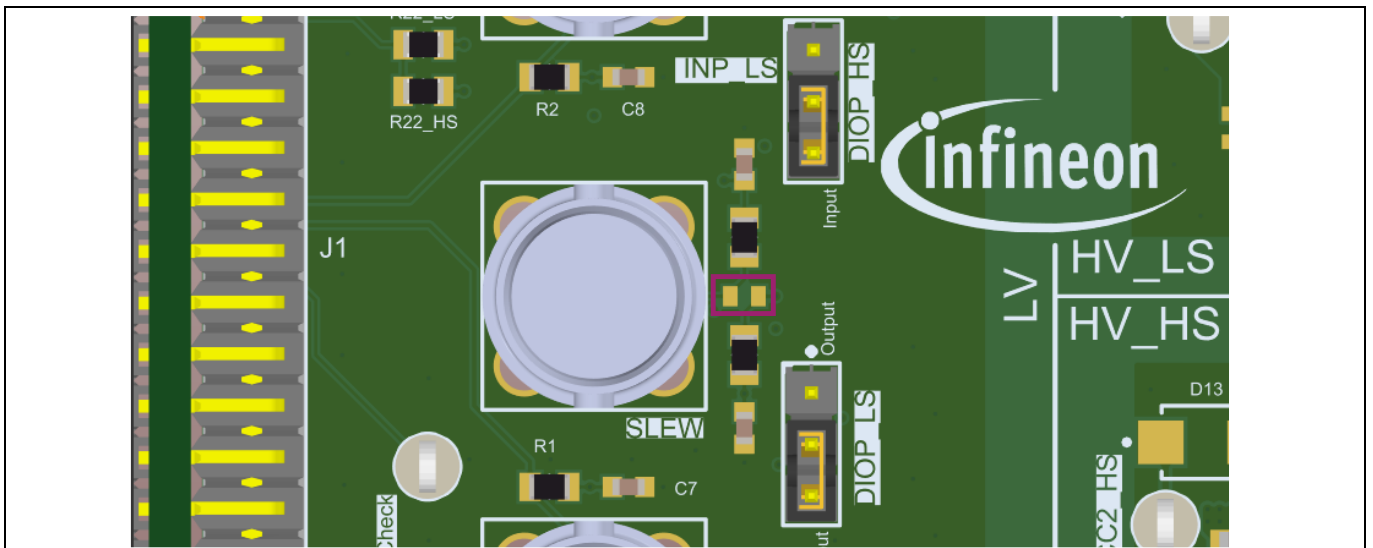

Figure 29 Populate R34 in the location shown
- Populate 0 Ohm resistor to R34 as shown in Figure 29